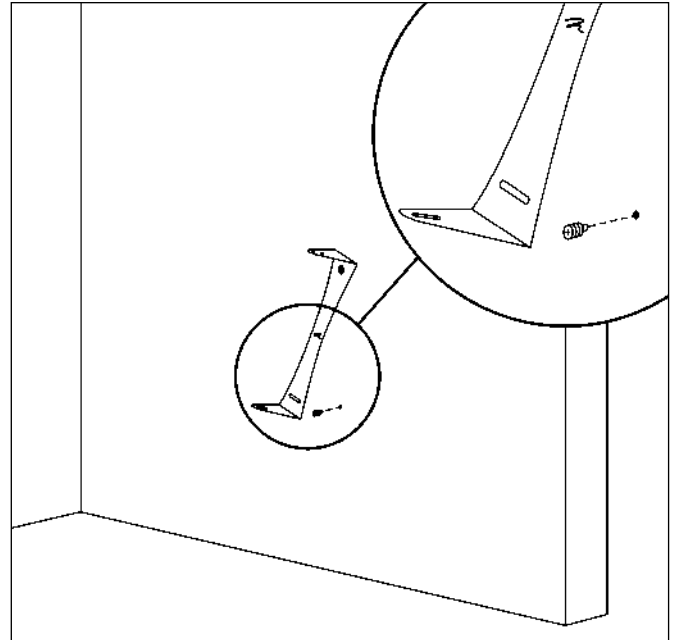
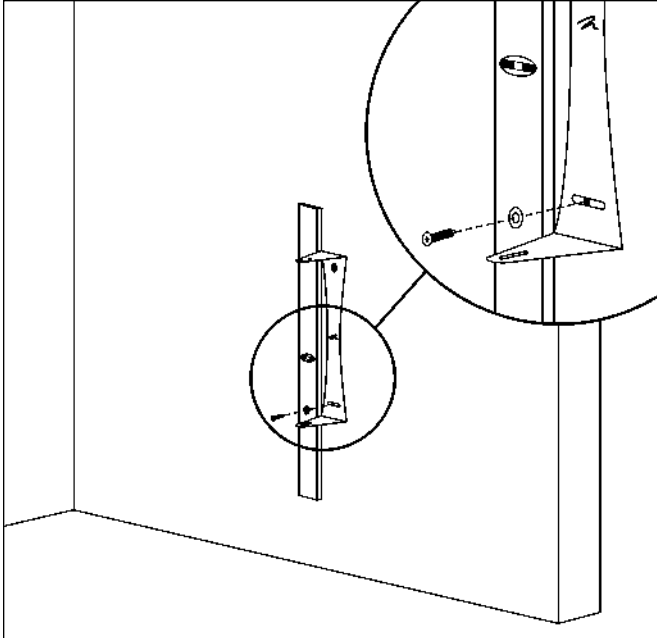

Figure 4.
Figure 5.
- 4 Allow the wall bracket to hang freely, and use a level to assure the wall bracket is perfectly vertical (see figure 5). Mark your second wall anchor location at the center of the slot on the bottom-back of the wall bracket (the slot immediately below the MartinLogan zig cutout). Pivot the wall bracket to one side so that you can sink the wall anchor into the location that you just marked. Use a hammer to tap a nylon wall anchor through the center point and then drive the anchor all the way into the wall by using a #2 Phillips bit and an electric drill (see figure 4).
- 5 Move the wall bracket back into position over the wall anchor and place #12 metal washer on one of the screws and drive it through the slot at the bottom-back of the bracket into the mounting anchor. Do not tighten (see figure 5).
- 6 Use a level to assure that the wall bracket is perfectly vertical, then securely tighten the screw at the bottom of the wall anchor. Next, securely tighten the screw at the top of the wall bracket (see figure 5).